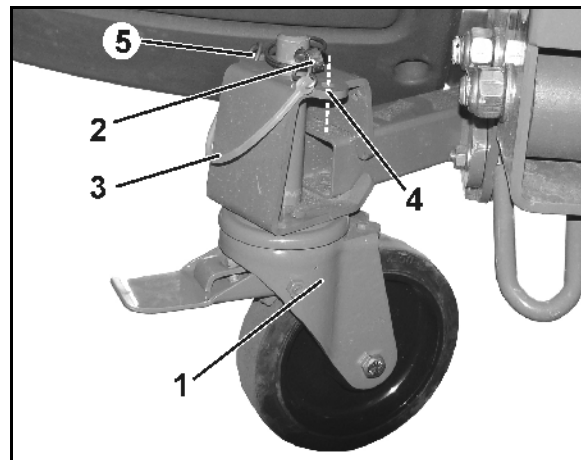

Fig. 37
5. Steerable brake rollers at front (Fig. 37/1)
- o Install and secure with clip pin (Fig. 37/2), or
When the transport rollers are not in use, secure the clip pins in the parking position (Fig. 37/4).